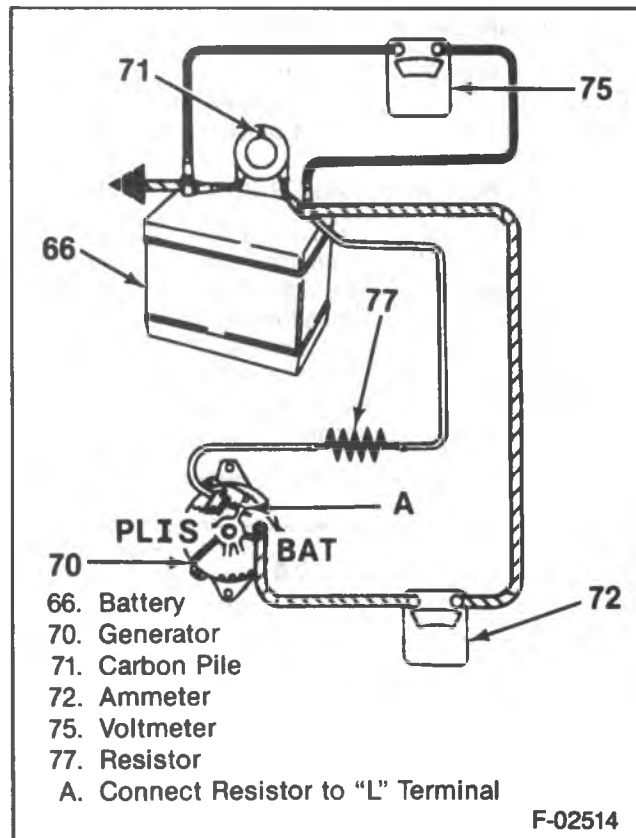

Figure 17 — Connections for Bench Check Test
1. Make connections as shown in figure 17, but be sure to leave the carbon pile disconnected. The ground polarity of the generator and battery must be the same. The battery must be fully charged. Use a 30 to 500 ohm resistor between the battery and the "L" terminal.